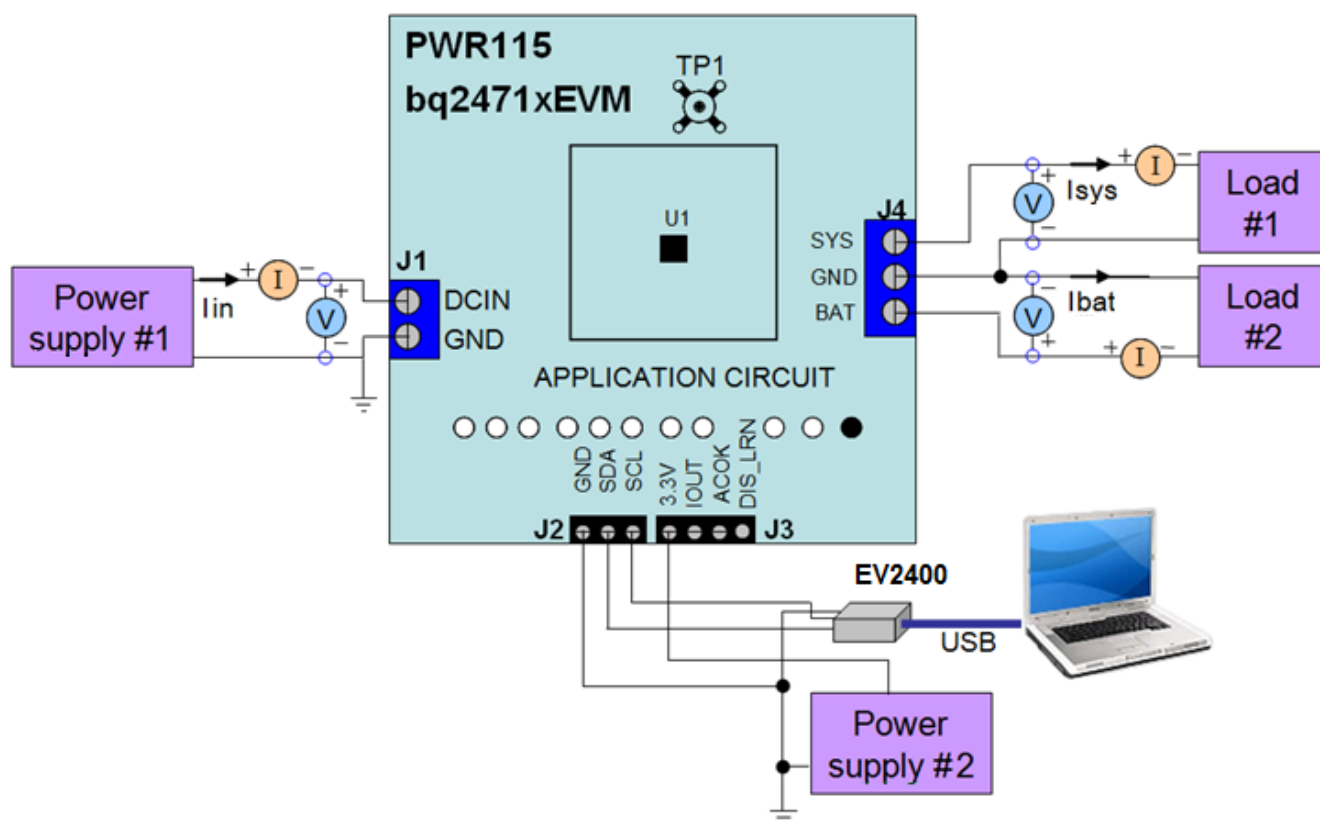

Figure 4. Test setup for PWR115
- Connect the output of the Load #1 in series with a current meter (multimeter) to J4 (SYS, GND). Make sure a voltage meter is connected across J4 (SYS, GND). Turn on power of Load #1. Set the load current to $0.5 \text{ A} \pm 50 \text{ mA}$ but disable the output. The setup is now like Figure 4 for PWR115. Make sure $I_{\text{bat}} = 0 \text{ A} \pm 10 \text{ mA}$ and $I_{\text{sys}} = 0 \text{ A} \pm 10 \text{ mA}$.